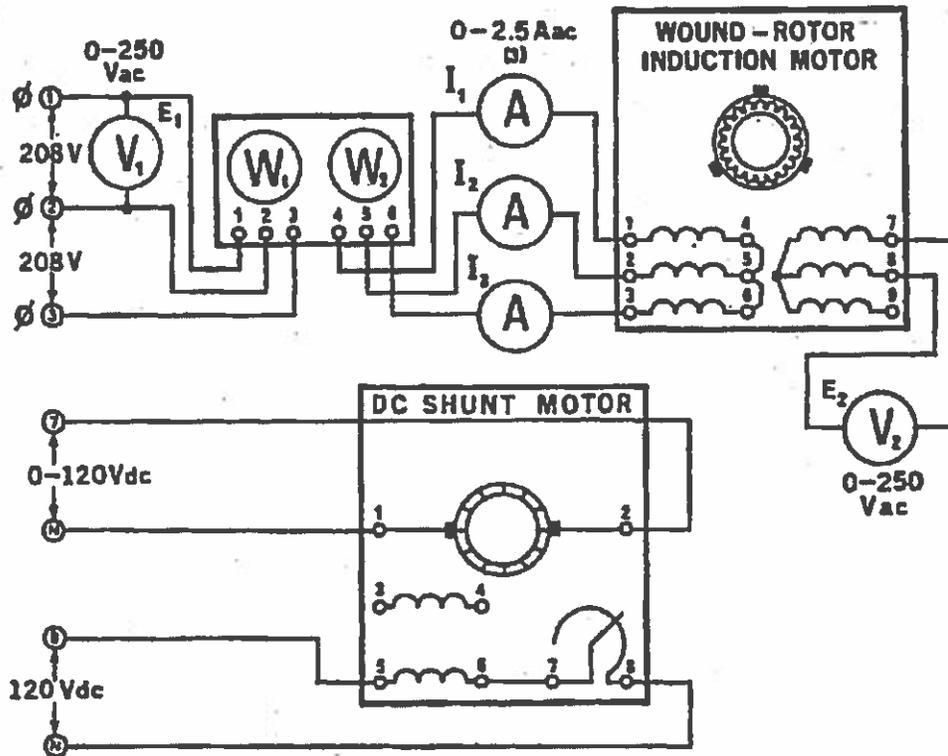

Figure 49-1.
4. Using your DC Motor/Generator, Three-Phase Wound-Rotor Induction Motor, Three-Phase Wattmeter, Power Supply, AC Ammeter and AC Voltmeter, connect the circuit shown in Figure 49-1.